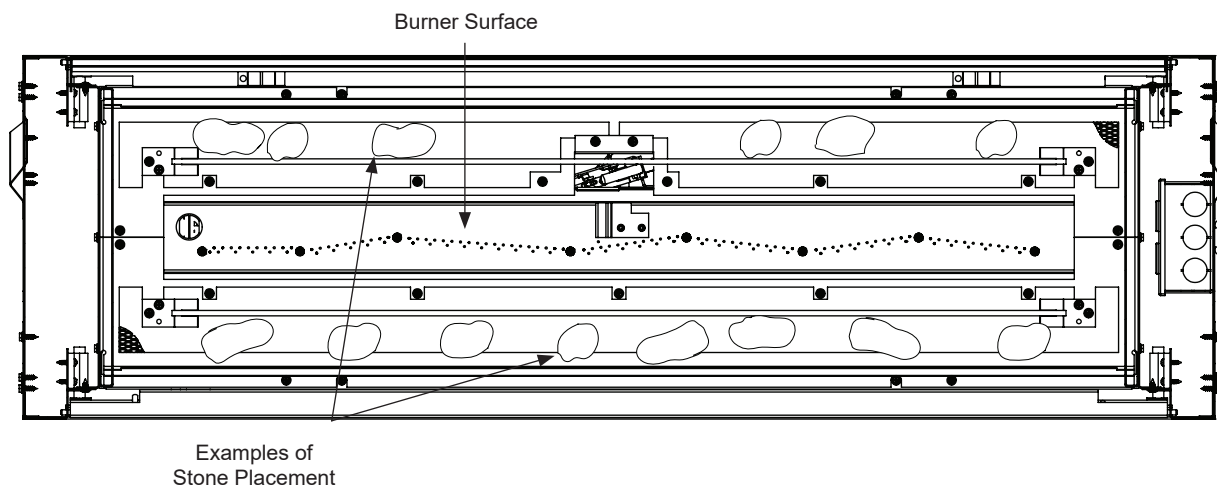

Figure 17. Air Deflection Glass and Stone Placement
2. Place the stones randomly in front of and behind the air deflection glass. **CAUTION:** Do not allow stones to sit directly on burner or in flame. Figure 17.